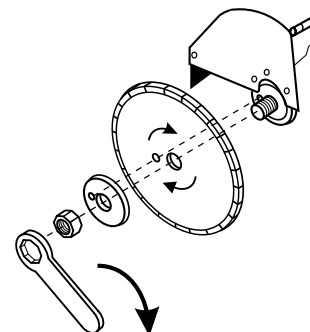

Figure 12. Mounting the Diamond Blade
5. Use the provided blade nut and spindle locking wrenches to remove and install the blade. (Figure 12)
3. Select Diamond Blade and mount the blade according to Figure 12.